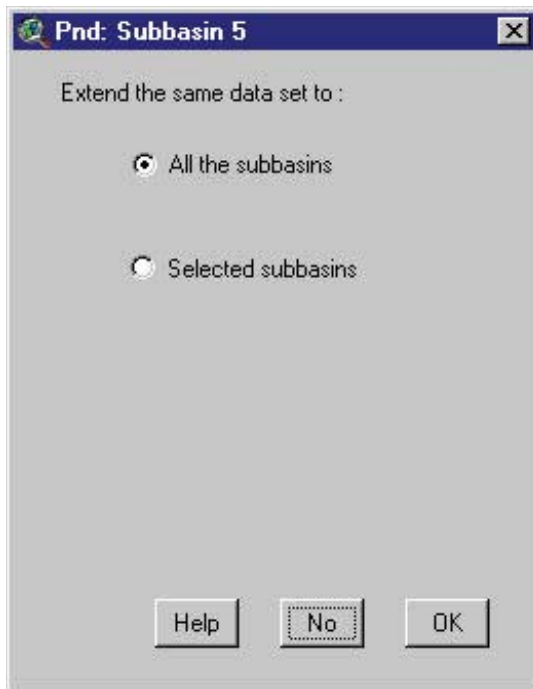

Figure 12.87
5. If the user saves the modified values, once the values are saved for the subbasin (by clicking **OK** in step 4) a new dialog box is displayed allowing the user to copy the modifications to other subbasin data sets (Figure 12.87).